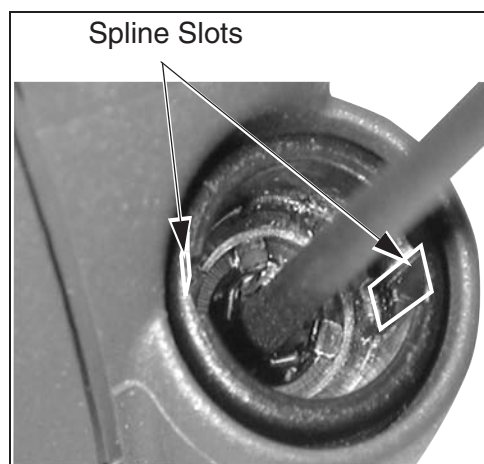

Figure 4-2.
3. Grasp the antenna and tool as a unit and push down towards the Antenna Collar. Once the splines engage, push in until the tool is bottomed inside the seat. For spline detail, see Figure 4-2.